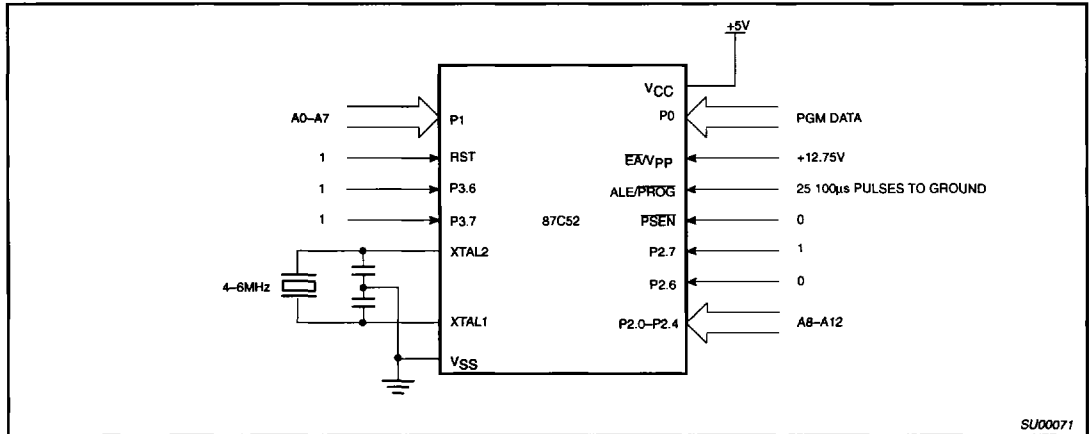
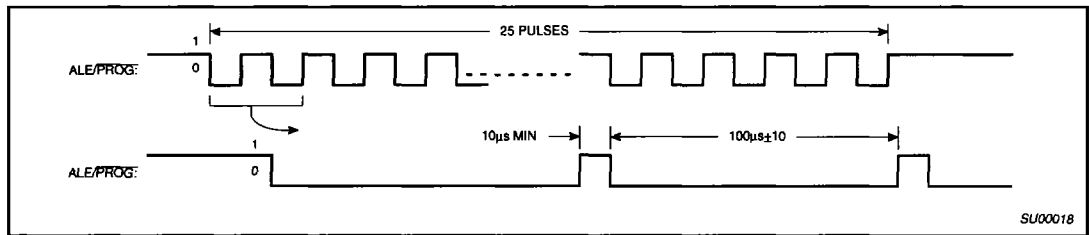
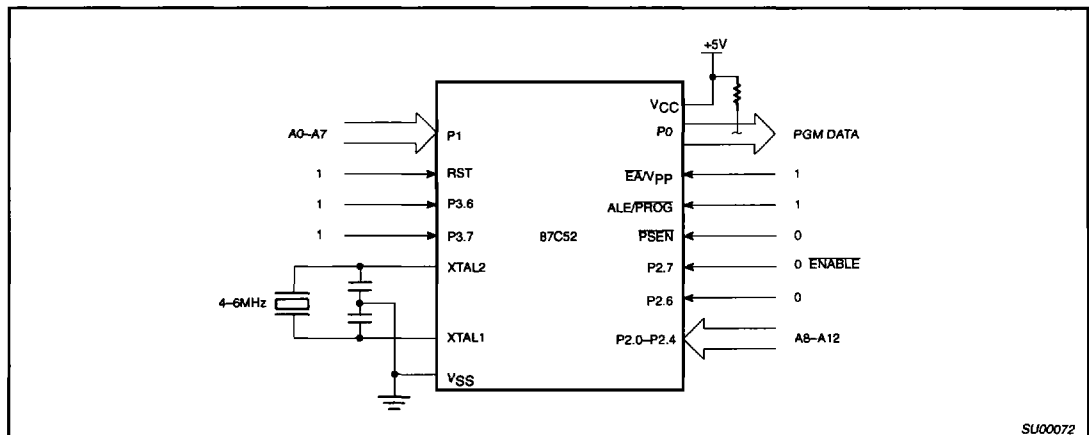

Figure 17. Programming Configuration
Figure 18. PROG Waveform
Figure 19. Program Verification
Table 6 shows the logic levels for reading the signature byte, and for programming the program memory, the encryption table, and the security bits. The circuit configuration and waveforms for quick-pulse programming are shown in Figures 17 and 18. Figure 19 shows the circuit configuration for normal program memory verification.
The setup for microcontroller quick-pulse programming is shown in Figure 17. Note that the 87C52 is running with a 4 to 6MHz oscillator. The reason the oscillator needs to be running is that the device is executing internal address and program data transfers.
The address of the EPROM location to be programmed is applied to ports 1 and 2, as shown in Figure 17. The code byte to be programmed into that location is applied to port 0. RST, PSEN and pins of ports 2 and 3 specified in Table 6 are held at the 'Program Code Data' levels indicated in Table 6. The ALE/PROG is pulsed low 25 times as shown in Figure 18.
If security bit 2 has not been programmed, the on-chip program memory can be read out for program verification. The address of the program memory locations to be read is applied to ports 1 and 2 as shown in Figure 19. The other pins are held at the 'Verify Code Data' levels indicated in Table 6. The contents of the address location will be emitted on port 0. External pull-ups are required on port 0 for this operation.
- \* FOR PROGRAMMING VERIFICATION SEE FIGURE 17.
- FOR VERIFICATION CONDITIONS SEE FIGURE 19.